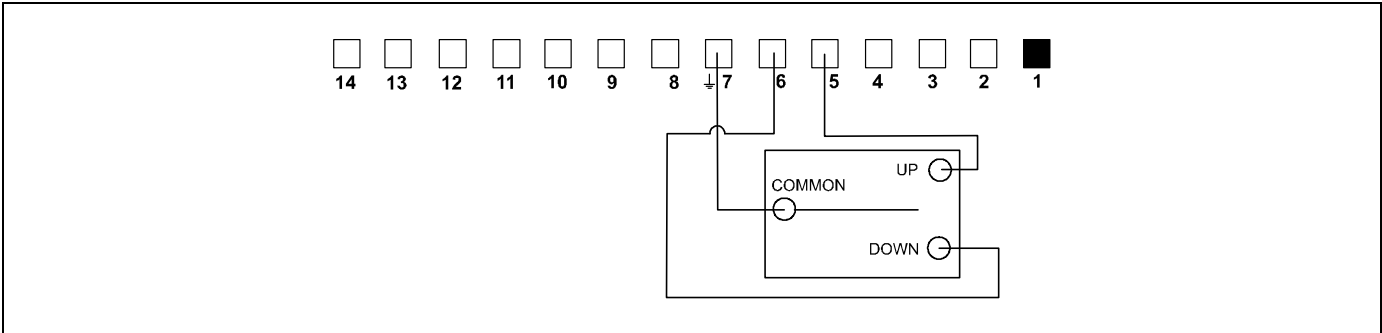

Figure 32
- 7. Connect the common wire from your switch to terminal 7. (See figure 32)